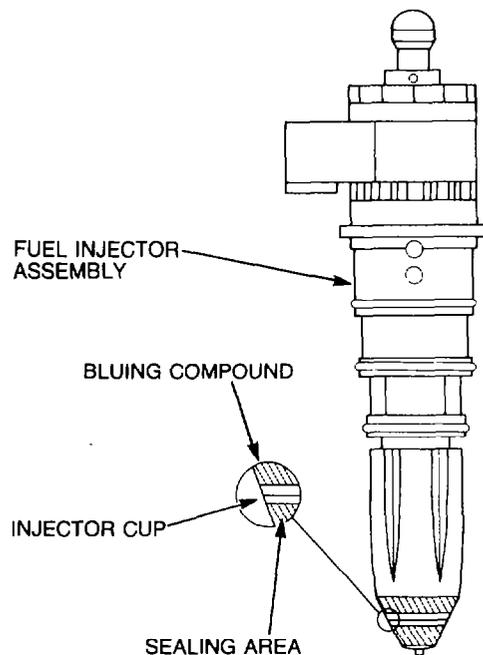

Figure 8 — Fuel Injector Cup — Sealing Surface
- r. Remove the fuel injector and inspect the pattern of the bluing compound around the injector cup, the pattern must be greater than 1.52 mm (0.060 in.) wide, smooth and unbroken to indicate a suitable sealing surface (see Fig. 8). Recut the fuel injector sleeve if necessary, but do not exceed fuel injector tip protrusion specification.